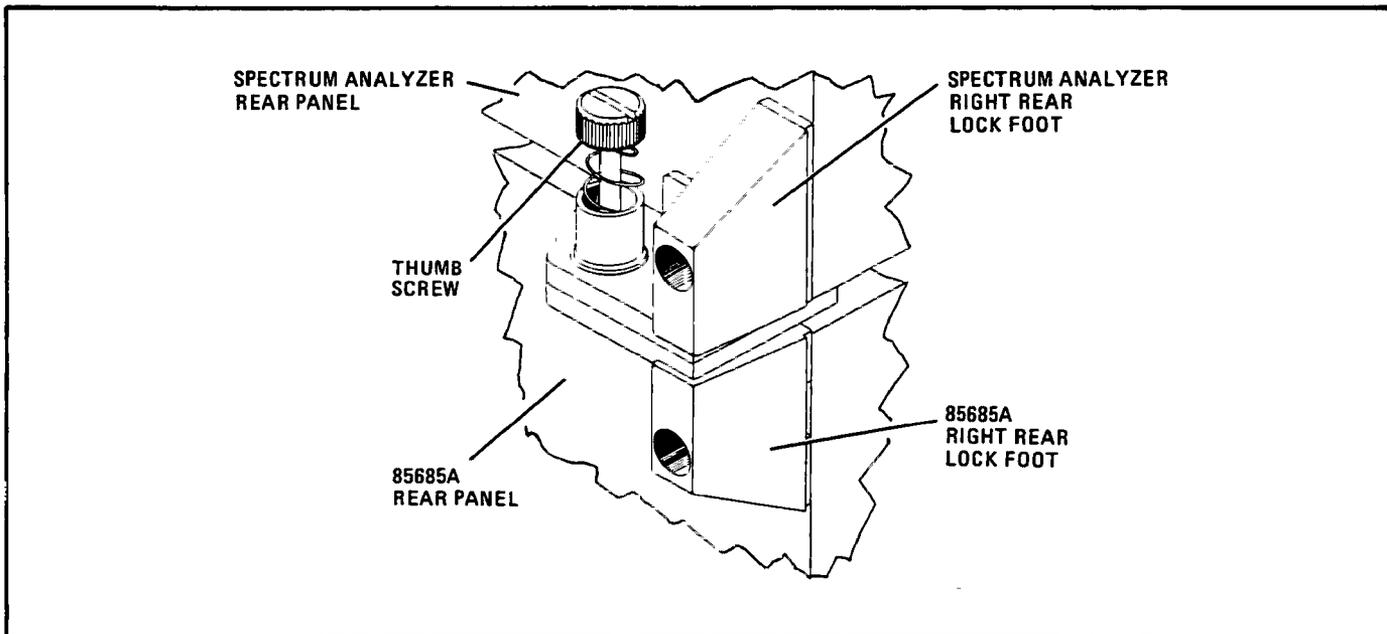

FIGURE 2-4 SECURING LOCK-FEET
6. Using the thumbscrews, secure the spectrum analyzer's new bottom rear feet to the preselector's top rear feet, as in Figure 2-4.